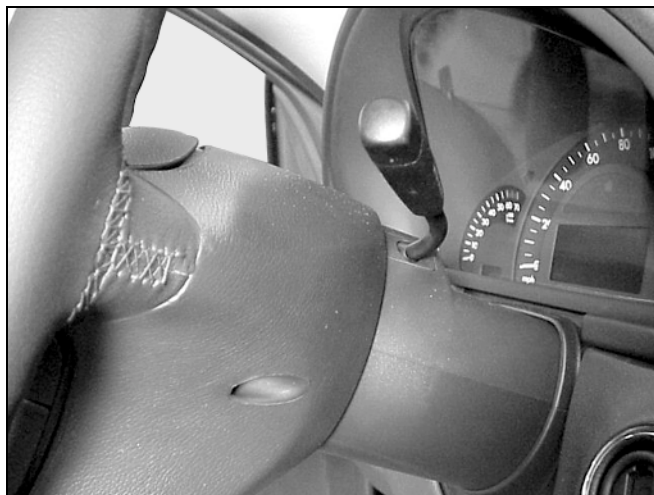

Figure 5
4. Apply steady inward pressure while gently rotating the lever toward you until it snaps into place (Figure 5).